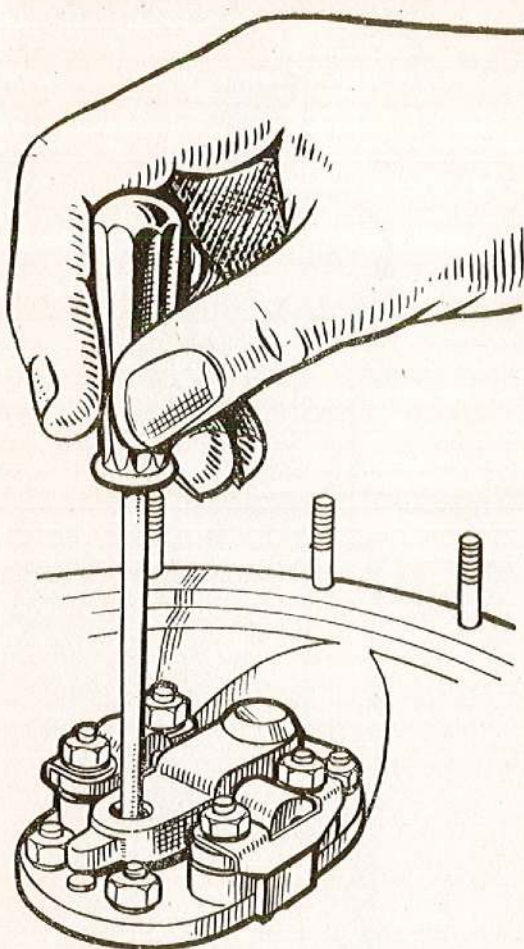

Fig. 35. Stall pressure adjustment
- Op. 2. If the stall pressure is too low insert a narrow-shanked screwdriver through the hole in the rocker lever into the slotted head of the adjustment screw in the pump housing (fig. 35) and turn the screw in an anti-clockwise direction to increase the compression of the spring. One quarter of a turn of the adjusting screw represents approximately 50 lb. per sq. in. difference in the stall pressure reading. The screw must be turned in a clockwise direction to reduce the stall pressure.